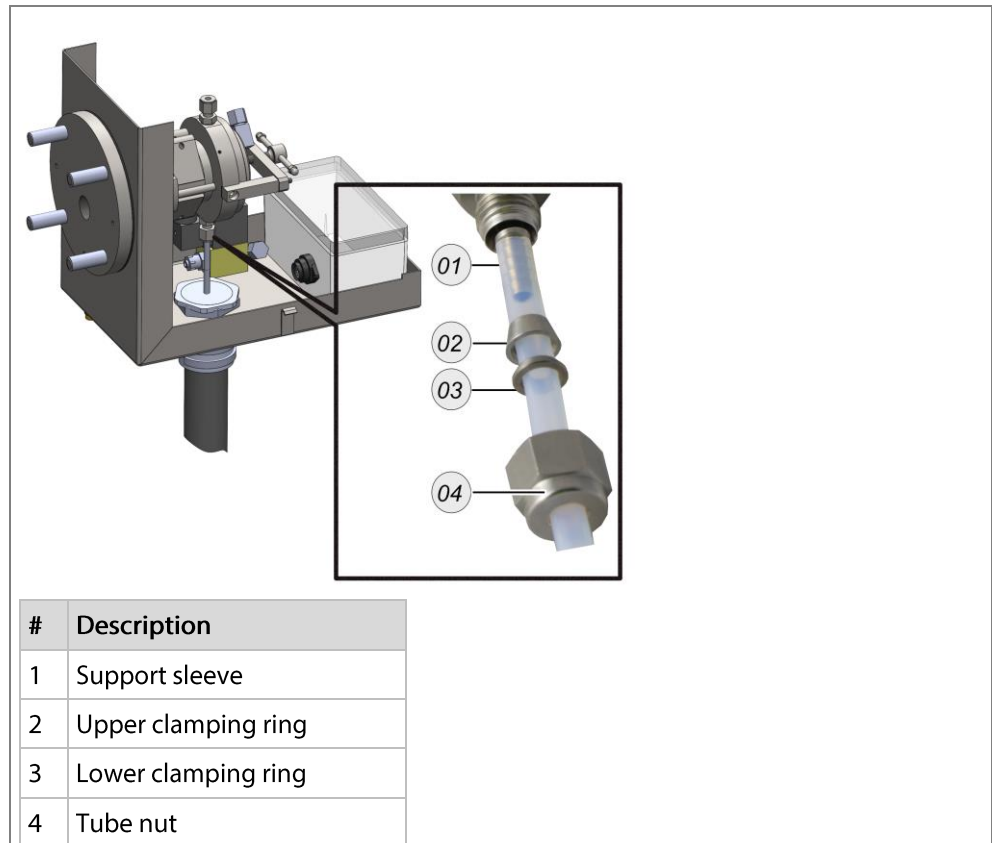

Fig. 8
- ▶ Insert the probe plug into the probe socket (Fig. 8)